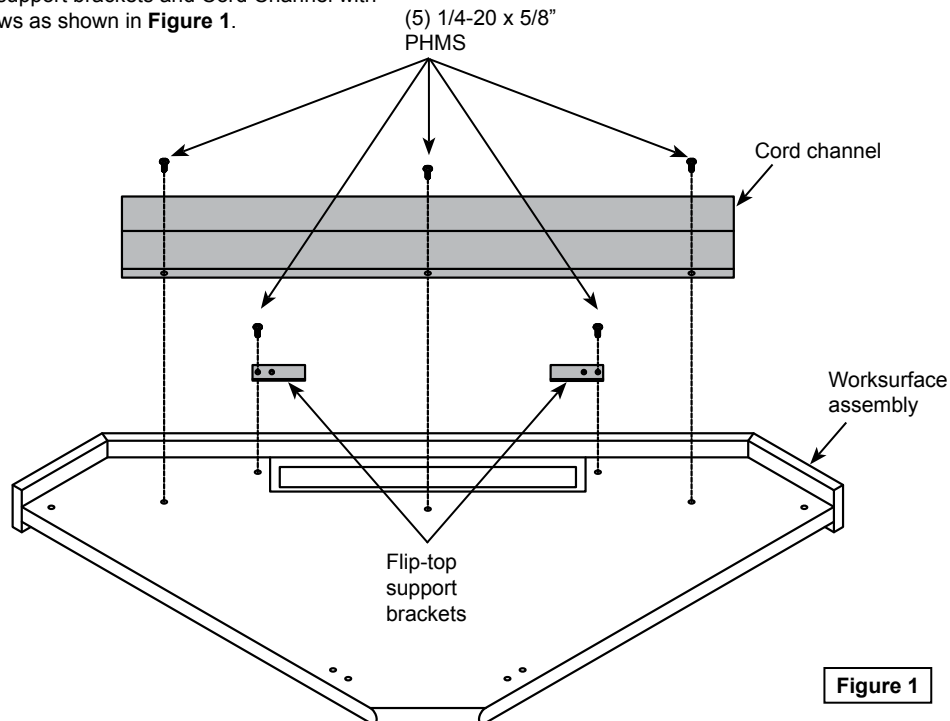

Figure 1
- Attach the two Flip-top support brackets and Cord Channel with 1/4-20 x 5/8" PHM screws as shown in **Figure 1**.